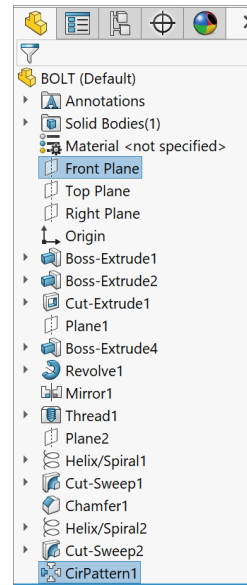

Fig. 79
Step 1. **Ctrl** click **Front Plane** and **Circular Pattern1** feature in the Feature Manager to select plane and feature, **Fig. 79**.